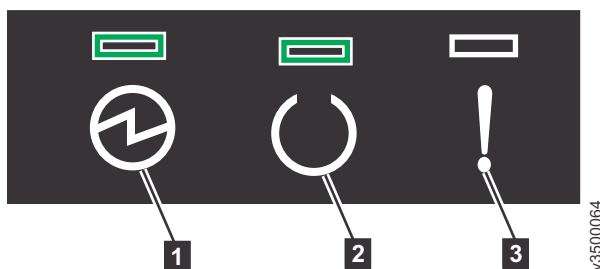

Figure 136. Expansion canister LEDs
2. From the rear of the expansion enclosure, check the LEDs on each expansion canister (see Figure 136).